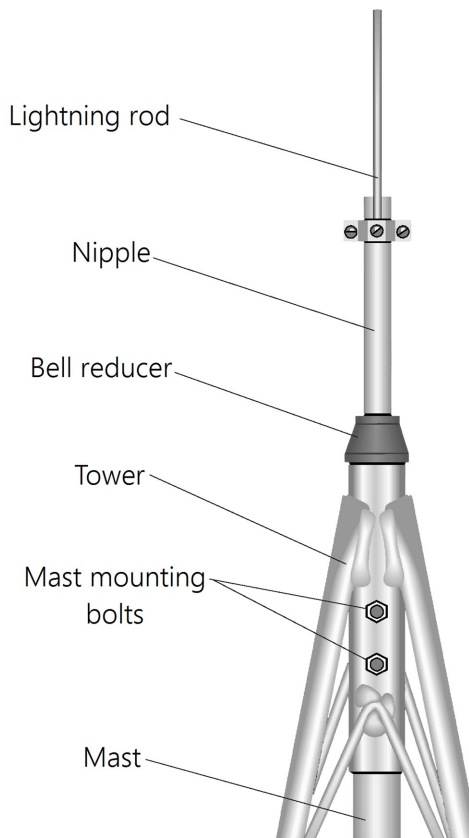

FIGURE 7-5. Install the mast
1. Install the mast as shown in FIGURE 7-5 (p. 13). Attach the 3/4-inch x 10-inch nipple to the mast using the bell reducer. Loosen the two mast mounting bolts at the top of the tower and insert the mast. For the UT6 at a 1.8 m mounting height, or the UT10 at 3 m, rest the bell reducer against the top of the tower. Tighten the two bolts to secure the mast.